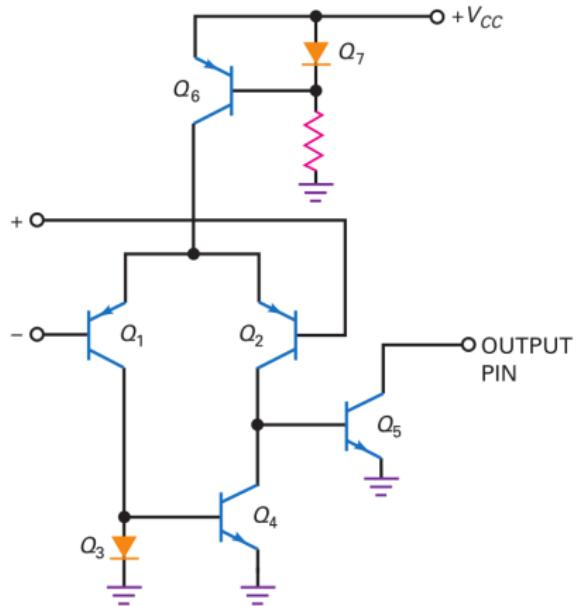

Figure 21: Simplified schematic diagram of IC comparator
- ▶ Fig. 21 is a simplified schematic diagram for an **open-collector comparator**.
- ▶ On the other hand, an open-collector output stage of Fig. 21 needs external components to be connected to it.
- ▶ With no compensating capacitor in the circuit, the output in Fig. 21 can slew very rapidly because only small stray capacitances remain in the circuit.